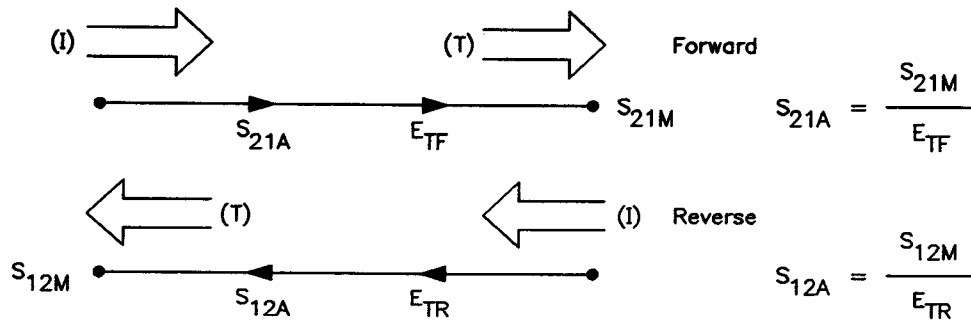

Figure B-12
The transmission coefficient is measured by taking the ratio of the incident signal (I) and the transmitted signal (T) (Figure B-12). Ideally, (I) consists only of power delivered by the source, and (T) consists only of power emerging at the test device output.